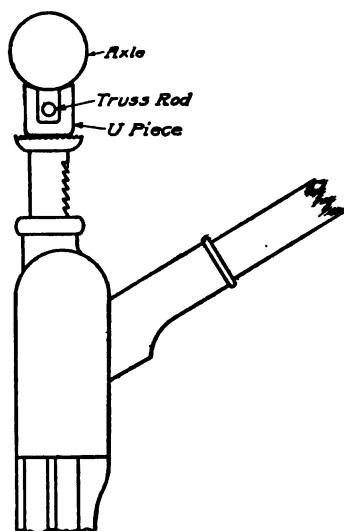

Fig. 45. Simple Arrangement for Avoiding Rear-Axle Truss Rod
**Jacking Up Troubles.** Many axles have a truss rod under the center and this is in the way when jacking; however, this can be overcome. Make from heavy bar iron a U-shaped piece like that shown in Fig. 45 on top of the jack, making the width of the slot just enough to admit the truss rod. The height, too, should be as little as will give contact with the underside of the axle housing.